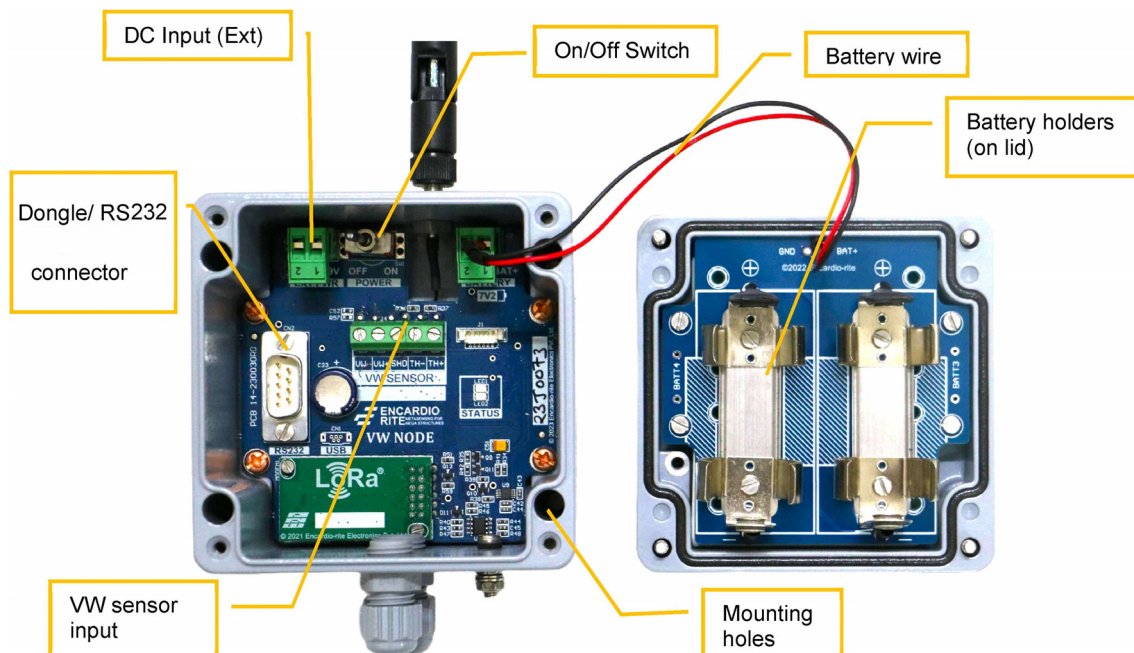

Figure 5-2 Node details
- Open the top cover with a screwdriver. A description of each part of the Node is given in the Figure 5-2